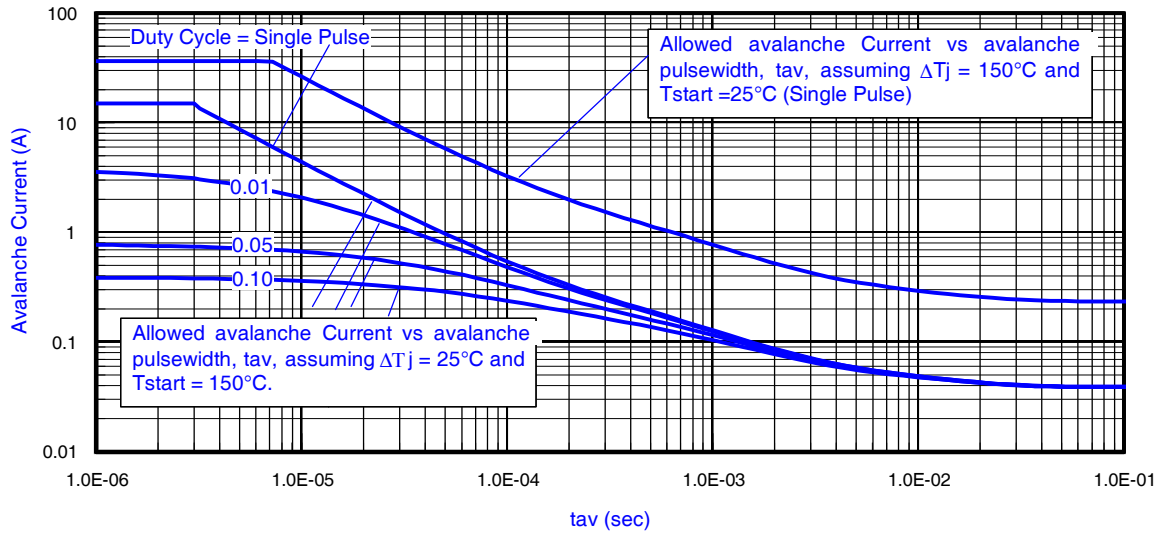

Fig 16. Typical Avalanche Current Vs.Pulsewidth
**Notes on Repetitive Avalanche Curves , Figures 16, 17:**
7.  $\Delta T$  = Allowable rise in junction temperature, not to exceed  $T_{jmax}$  (assumed as 25°C in Figure 16, 17).